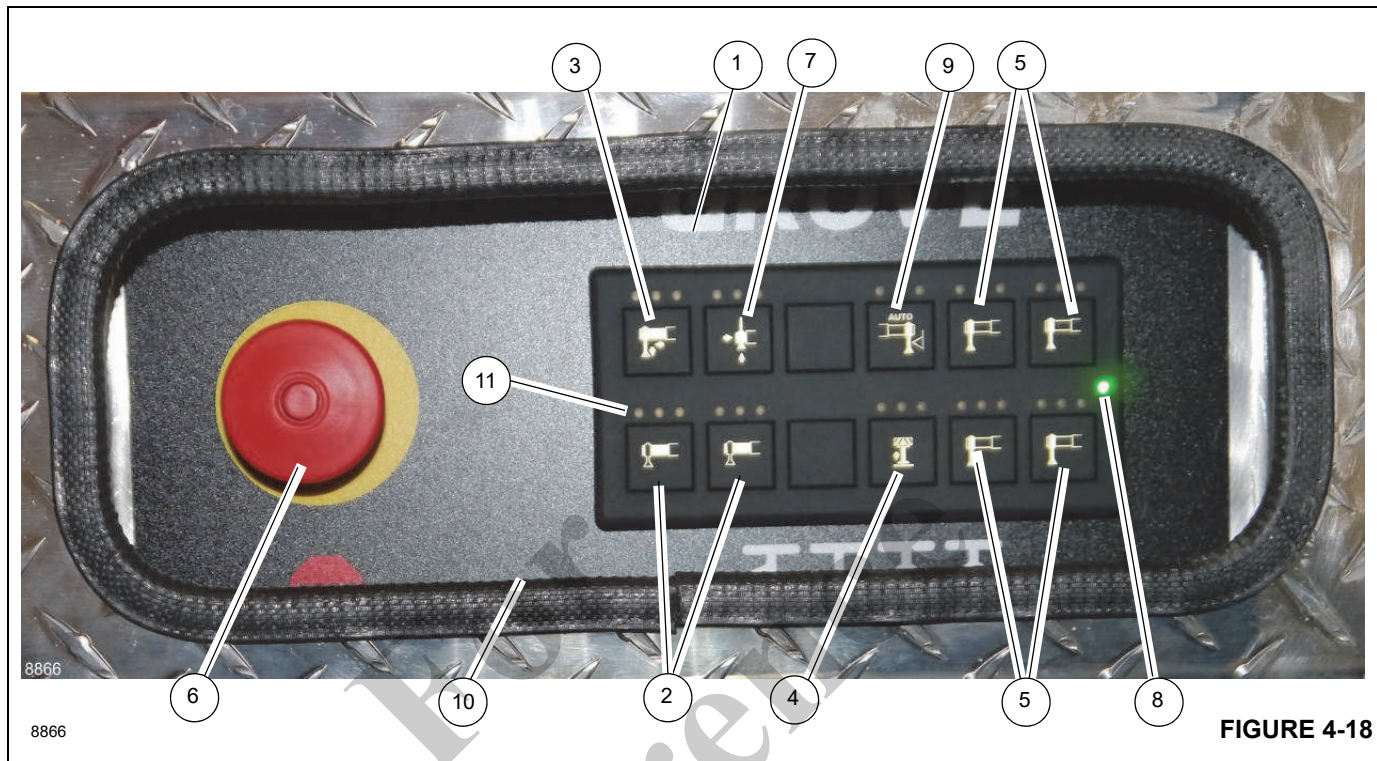

FIGURE 4-18
NOTE: A push-button emergency stop switch (6), (Figure 4-18) is installed on the outrigger control panel.
3. If required, extend the outrigger beams to the mid-extend or fully extended position by pressing the Outrigger Beam Selector Switch (2), (Figure 4-18) and the Extend Switch (3), (Figure 4-18). You can only activate the outrigger beams on the actual outrigger control panel side you are using (versus both sides at once).
4. Extend the outrigger jacks using the Outrigger Jack Selector Switches (5), (Figure 4-18). Extend each outrigger jack until the jack cylinder barrel engages the pad and insert retaining pin.
8. To activate auto level, press and hold the Auto Level Switch (9), (Figure 4-18) and the Extend Switch (3), (Figure 4-18). The system will make a series of retracting movements of the outrigger jacks, pausing between each movement to assess the levelness of the crane. When the movements have been completed, verify visually that all tires are off of the ground. If any of the tires have made contact with the ground consider adding cribbing under the outriggers.
9. Once the crane has been leveled and tire lift-off verified, use the Center Front Jack Switch (4), (Figure 4-18) and the Extend Switch to extend the center front jack. Verify visually that the center front jack has made contact with the ground or outrigger mat.
2. Retract the center front jack using the Jack Selector Switch (5), (Figure 4-18) and the Retract Switch (7), (Figure 4-18).
4. Retract the front outrigger jacks using the Jack Selector Switch (5), (Figure 4-18) and the Retract Switch (7). Retract the front outrigger jacks until they have adequate clearance to remove the outrigger pads.
8. If required, fully retract the outrigger beams using the Outrigger Beam Selector Switch (2), (Figure 4-18) and the Retract Switch (7), (Figure 4-18).